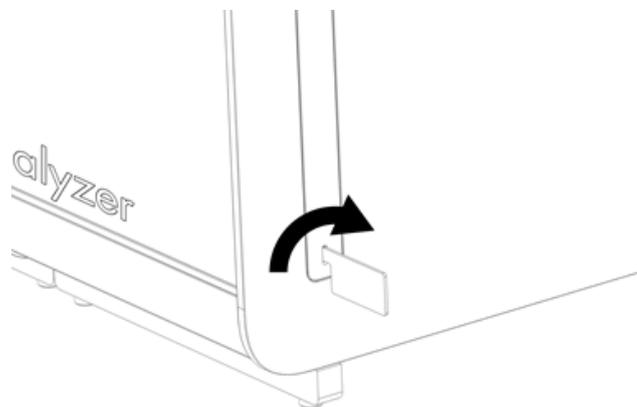

Figure 15. Removing protective covers.
3. Remove the protective covers from the side of the Analytical Module using the Protective Cover Removal Tool delivered with the QIAstat-Dx Analyzer 2.0 (Figure 15).